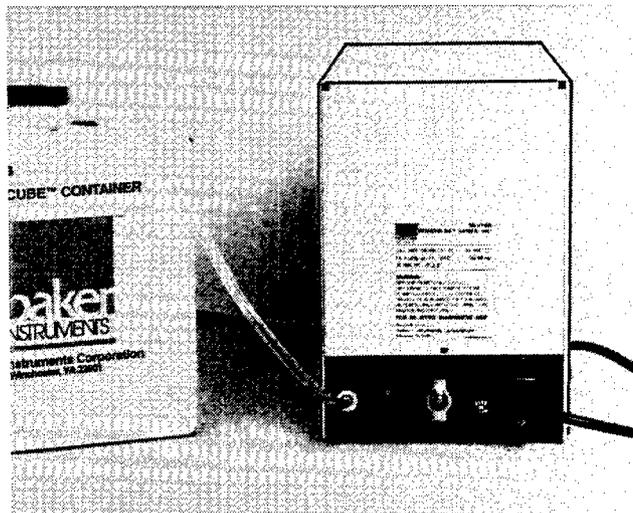

Figure 2-3.
2. As shown in Figure 2-3, insert one end of the reagent inlet tube over the inlet port located on the lower, left-rear corner of the dilutor.